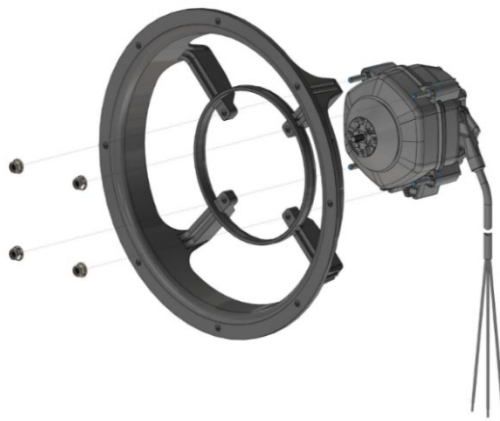

Figure 1: Fan basket or ring mount
- Mount motors in an orientation that allows cable entry from underneath or below the motor as shown below in Figure 1. If cable orientation is from the side of the motor, you should apply a downward bend to the cable as close to the cable gland as possible to avoid water tracking into the motor. Cable entry from above is not recommended.